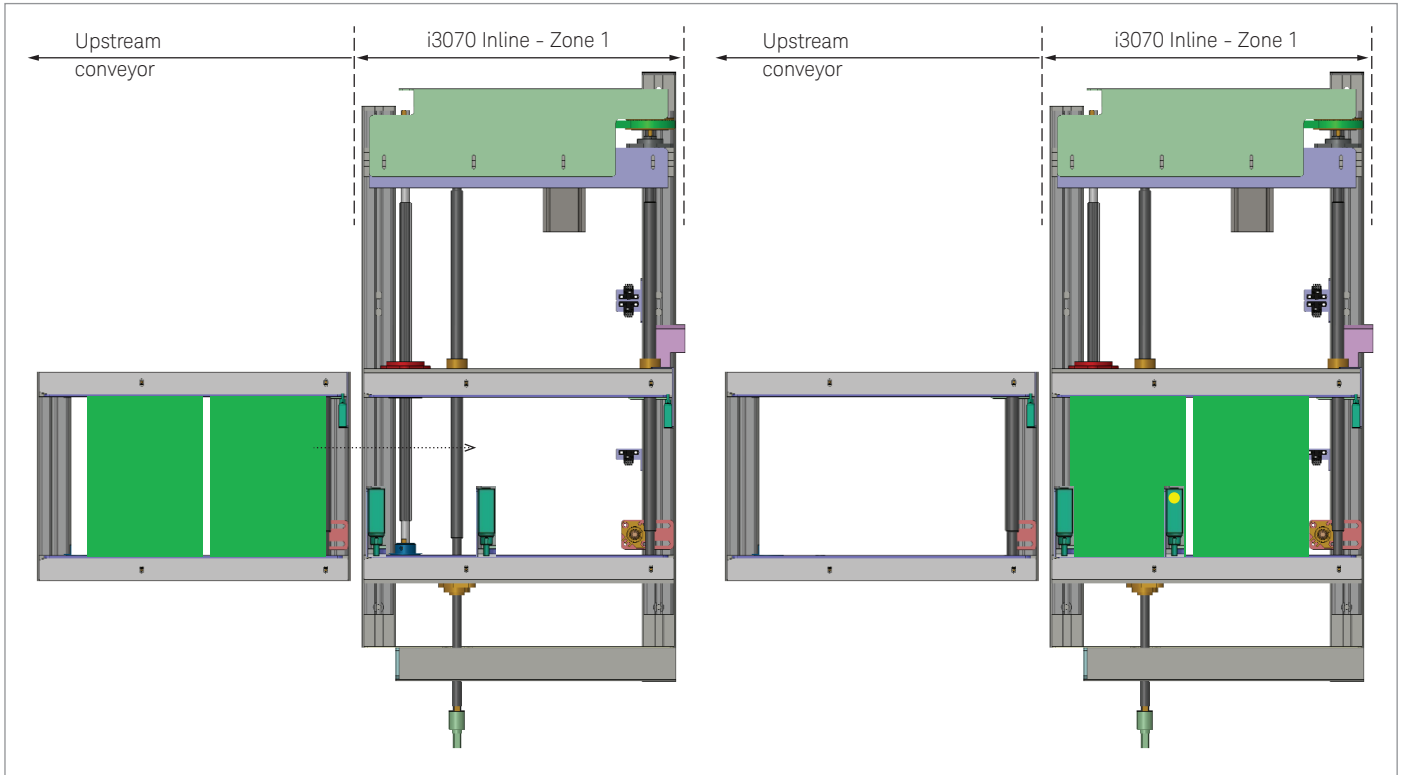

Figure 3. Abnormal board flow situation (plan view)
2. An abnormal board flow situation is shown in Figure 3 below. Two PCBAs are transferred from the upstream conveyor to the in-circuit tester. When the conveyor belt stops running, the tailgate sensor is triggered as it detects the presence of a PCBA in the sensor area. Hence, the system will trigger an alarm and alert the user.